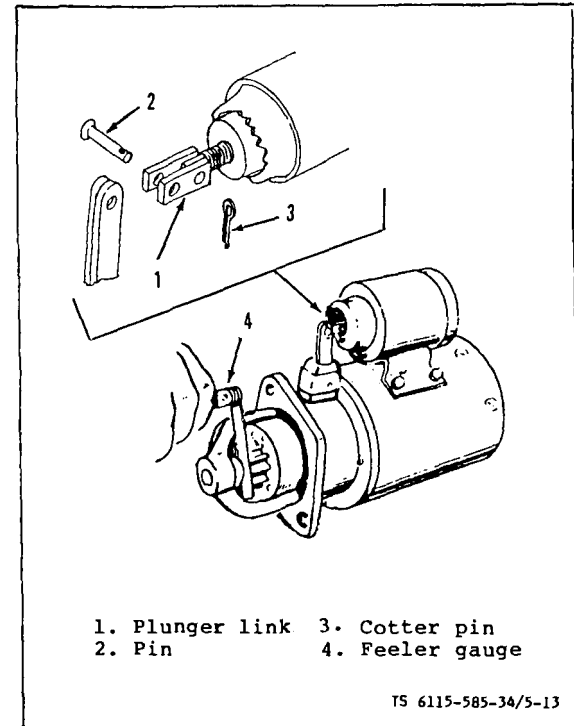

Figure 5-13 Checking Pinion Clearance
(2) Check pinion gear clearance. See figure 5-13. Proper clearance is important to insure starter engagement. To check, press on solenoid plunger to shift pinion gear into full mesh position. While holding plunger in, measure clearance with feeler gauge (4) between pinion gear and step. The proper clearance is  $0.096 +0.030/-0.020$  inch. Adjust clearance by turning solenoid plunger link (1) in to decrease gap, or out to increase the gap. See figure 5-13 cutaway view. Reinstall the pin (2) and cotter pin (3) securing plunger link (1) to yoke.